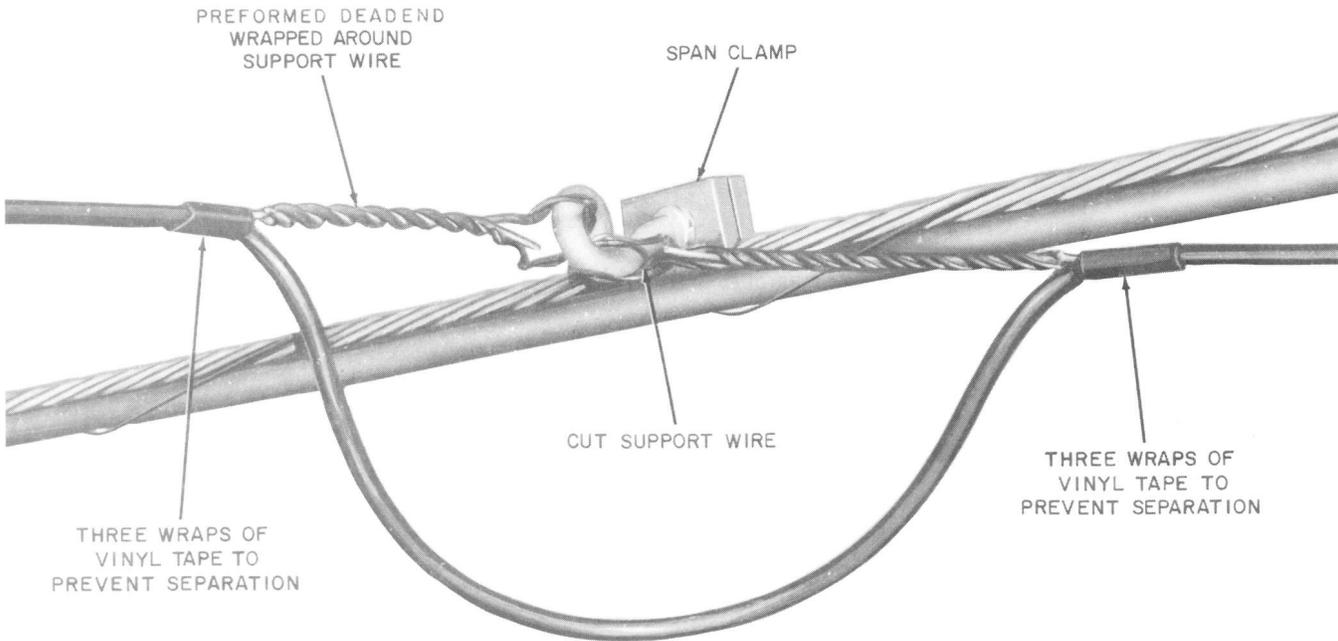

Fig. 11—F Coaxial Wire Attached at Midspan
6.01 Install a span clamp and attach the F coaxial wire as shown in Fig. 11.
drive hook on pole or to span clamp in midspan in manner shown for E or F coaxial wire in Fig. 11 and 15.